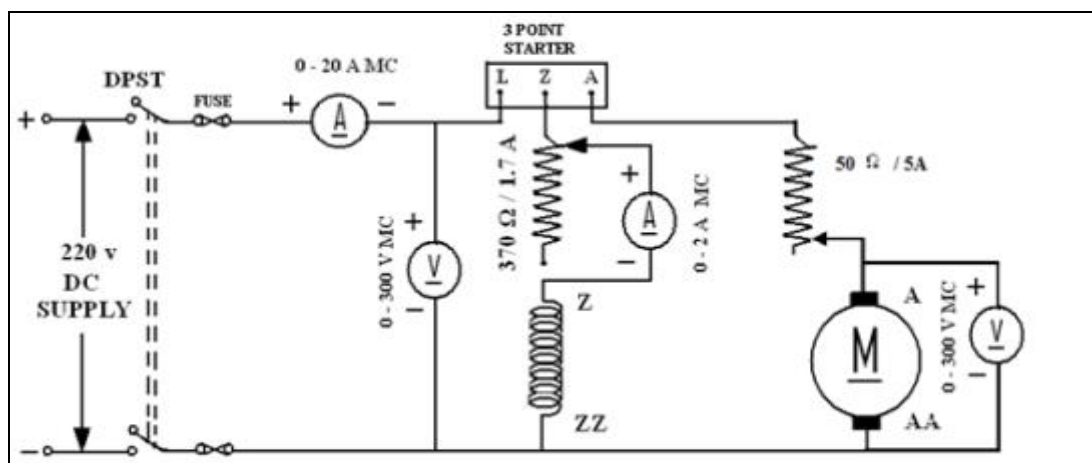

Figure 7 - Speed control of DC motor
1. Calculate the output power and efficiency when motor takes 10A on full load and 5A on half Load in Figure 7.